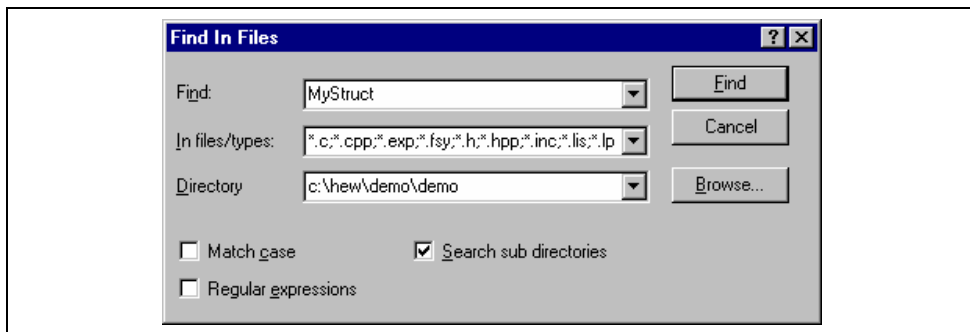

Figure 4.3: Find in Files Dialog
1. Select [**Edit->Find in Files...**], select [**Find in Files...**] from the editor window's local menu or click the find in files toolbar button . The "Find in Files" dialog box will be displayed (figure 4.3).